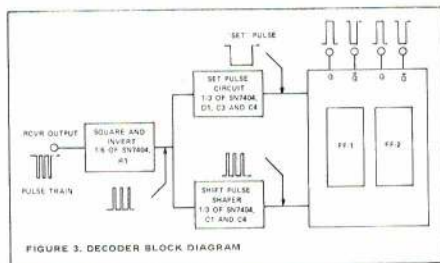
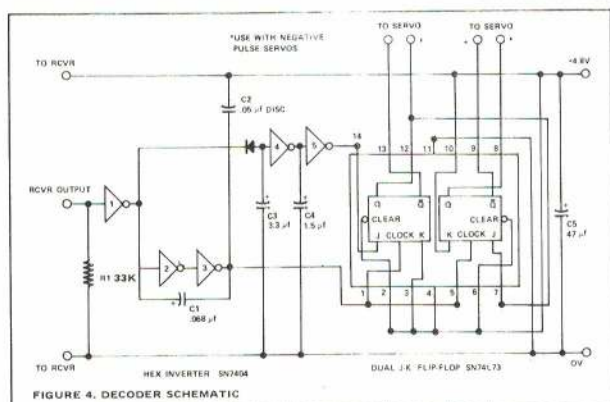

FIGURE 3. DECODER BLOCK DIAGRAM
FIGURE 4. DECODER SCHEMATIC
The decoder is shown functionally in the block diagram, Figure 3, and in the schematic, Figure 4. The description which follows is keyed to these two figures. The hexagon inverter SN7404 consists of six separate transistors with integral biasing and loading resistors contained in the chip. Digital information operates between two levels, i.e., it is binary. These voltage levels are usually slightly above zero volts and slightly below 4.8 volts for the decoder. An inverter will show the opposite output from the input.
Following the stage-by-stage construction sketches, we should be the proud possessor of Long Tom in a very short time. Commence by cutting, from a 3 x 36 x 1/16" sheet of medium grade B balsa, two fuselage sides 22" long by 1" wide. Cut the front ends to the angle shown on the plan—accuracy is important. Cement strips of 1/16" square along the top and bottom edges of the sides (Fig. 1). Add the 1/16" square crosspieces spaced two in. apart (Fig. 2). Cement in place pieces A and E; drill 3/32" dia. holes through piece E and the fuselage sides (Fig. 3). Join the two sides together with 1/16" sheet pieces B, C and D (2). Check for square assembly using a set-square. Use modeling pins to hold pieces B, C and D in place until cement has set. Then add the top and bottom 1/16" square crosspiece (Fig. 4). Cut two lengths 22 x 1" from 1/32" sheet and cover top and bottom